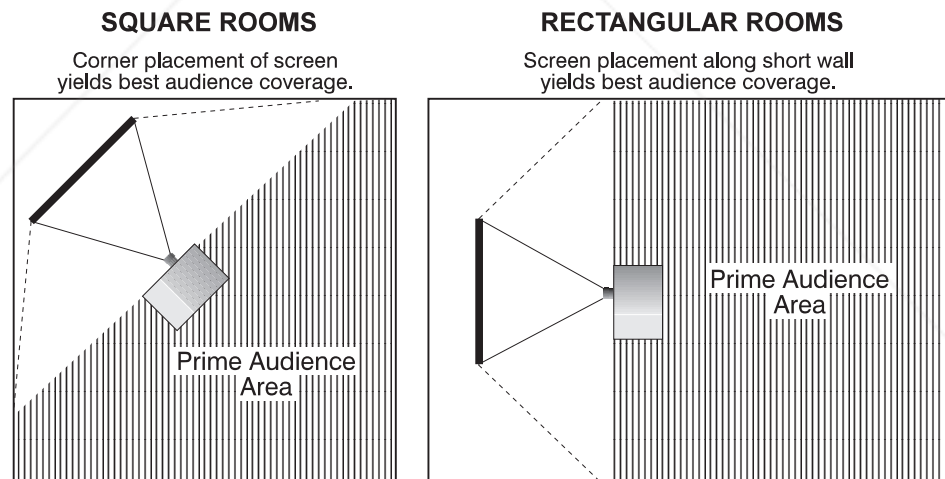

Figure 2-5. Screen Locations for Maximum Audience Coverage
- When laying out the projection room, consider positioning the projector and screen in a manner which will achieve maximum audience coverage and space efficiency. For example, placing the screen along the larger wall in a rectangular room will reduce audience coverage. Figure 2-5 shows two examples of how audience coverage is maximized.